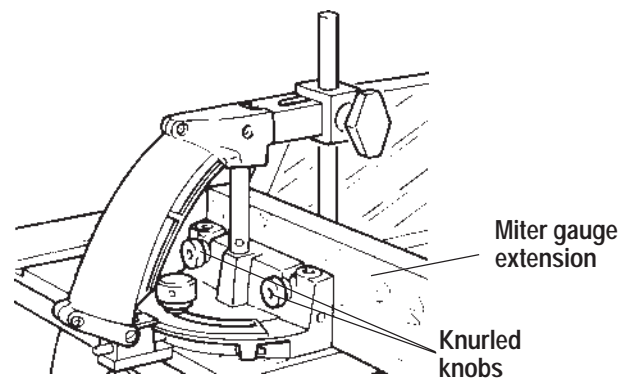

Figure B-127
5. The miter gauge has two slots, so that you can attach a miter gauge extension. See Figure B-127.